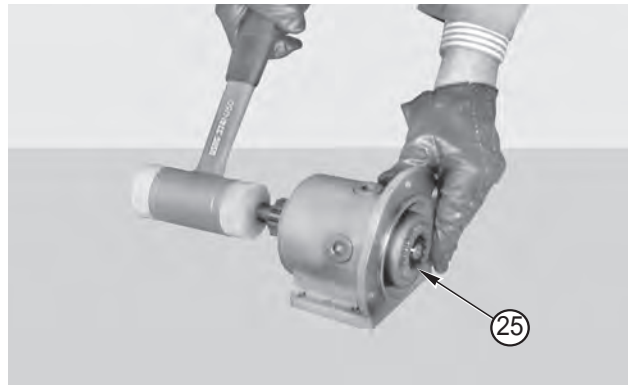

FIGURE 10: Remove the complete coupling assembly (25) using a plastic hammer.
FIGURE 10: Apply the Loctite 510 to the surface of the cylinder and the screw (7). Install cylinder to reduction gear with screws (7) and washers (8) tightening to a torque of 50 N·m.